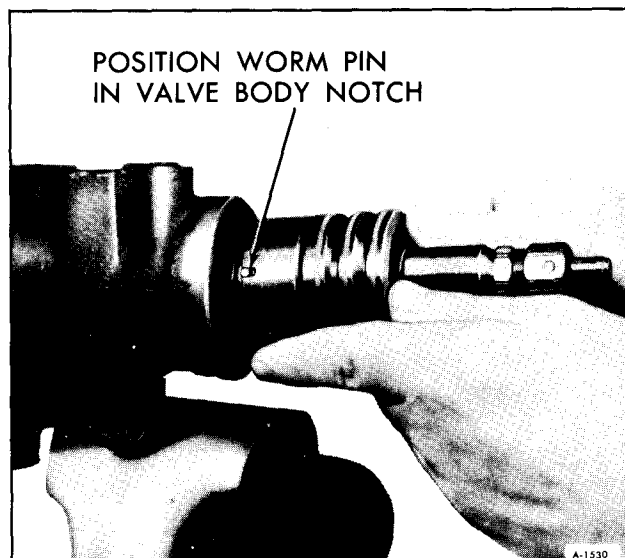
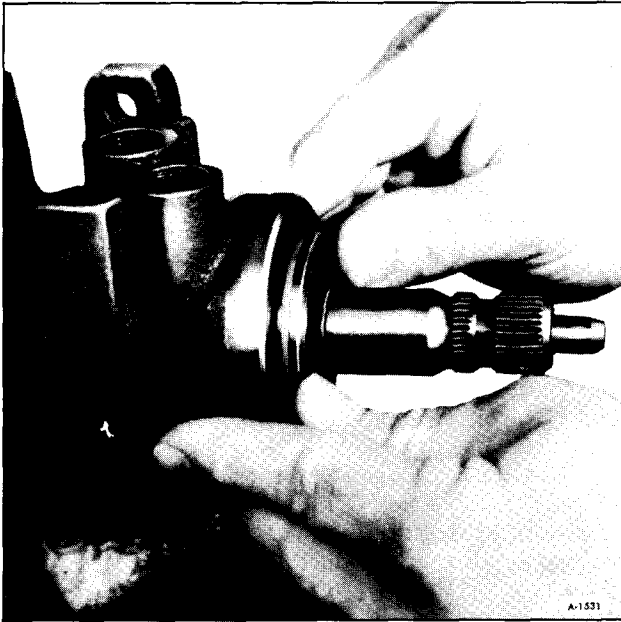

Figure 50—Valve to Worm Alignment
Figure 51—Installing Valve Body
2. Lubricate the valve body teflon rings and a new cap to body "O" ring with Power Steering Fluid. Install the cap to body "O" ring in the valve body so it is seated against the lower shaft cap. Align the NARROW NOTCH in the valve body with pin in the worm, then install the valve and shaft assembly in the gear housing (figure 50). Apply pressure to the VALVE BODY when installing. If pressure is applied to the stub shaft during installation, the shaft may be forced out of the valve body (figure 51).